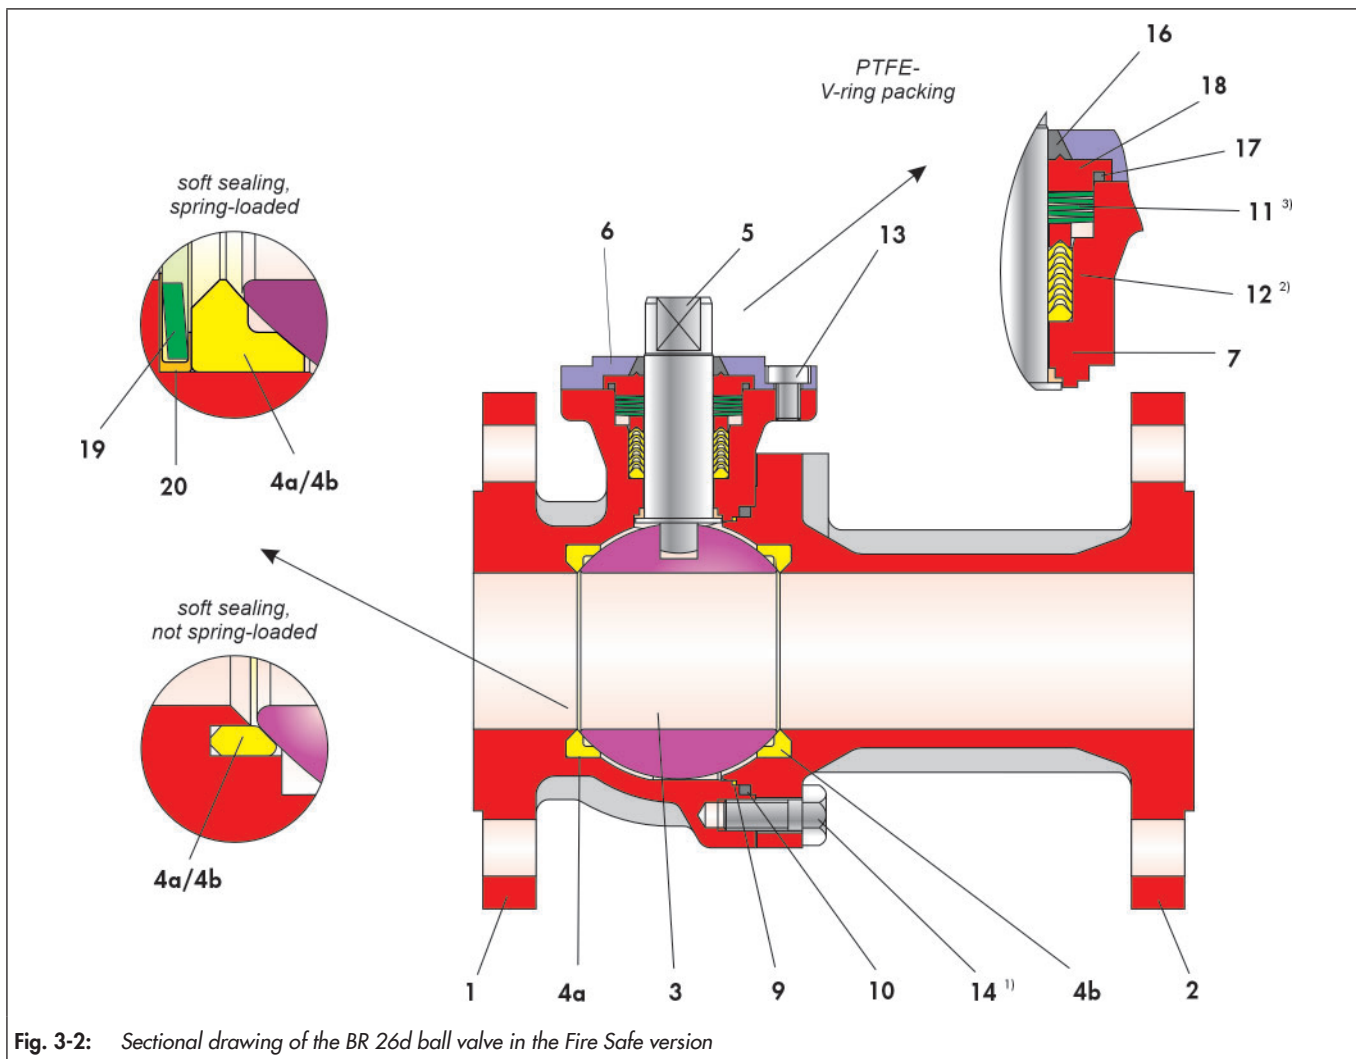

Fig. 3-2: Sectional drawing of the BR 26d ball valve in the Fire Safe version
- ⇒ Push the V-ring packing (12) with a slight rotation movement over the assembled control shaft (5) and insert it into the packing space of the main body (1). For the arrangement and quantity of the V-sleeves, see Fig. 3-2 and Table 3-5.
- ⇒ Place the disc spring set (11) on the packing (12). For the arrangement and quantity of the disc spring, see Fig. 3-2 as well as Table 3-5 and Table 3-6.
- ⇒ Press the carbon-graphite ring (17) into the bush (18).
- ⇒ Push the bush (18) with the carbon-graphite ring (17) over the control shaft (5) such that they lie on the disc springs (11).
- ⇒ Push the carbon-graphite ring (16) carefully over the control shaft (5) up to the bush (18).
- ⇒ Place the stuffing box flange (6) over the control shaft (5) onto the main body (1).
- ⇒ Lightly grease the screws (13).
- ⇒ Evenly adjust the stuffing box flange (6) with the screws (13) and tighten in a criss-cross pattern.